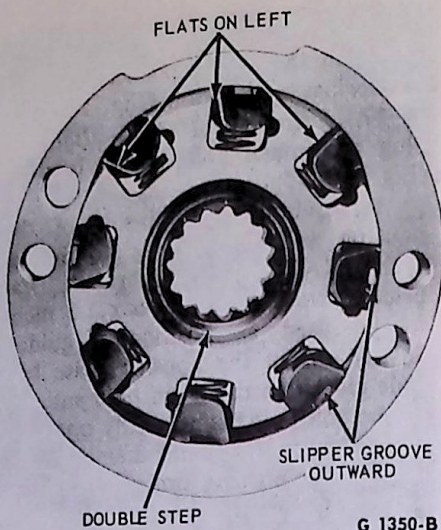

FIG. 14 Correct Slipper Installation
7. Use one of the slippers to compress the spring and install the slipper with the groove in the slipper facing upward (toward the cam notch). The flats on the side of the slipper should be on the left (Fig. 14).